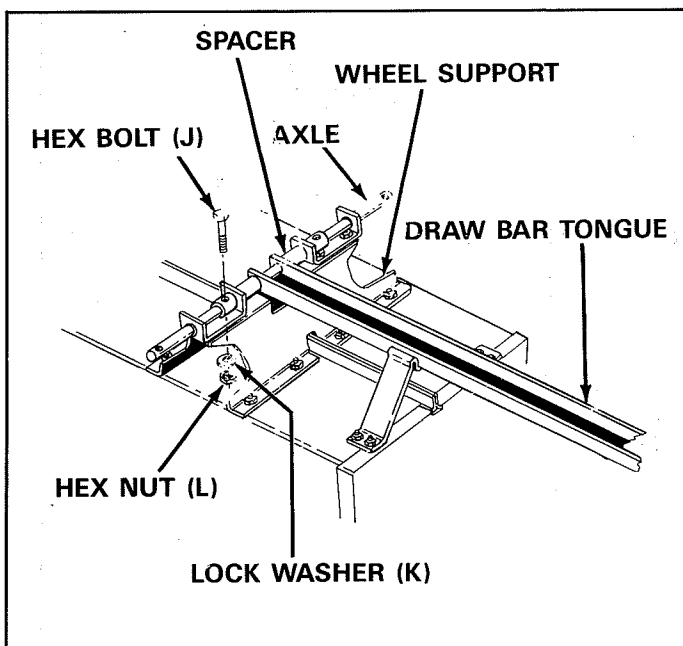

FIGURE 13
19. Assemble axle, (2) tube spacers and draw bar tongue to wheel support keeping open side of tongue facing up, make sure that latch lock snaps over latch stand. Secure axle to wheel support or axle brackets, using 1/4" x 1-3/4" long hex bolts (J), lock washers (K) and hex nuts (L). See figure 13.